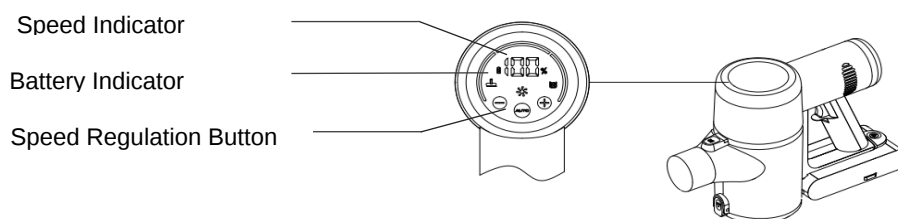

Figure 10
4. Touch the speed button '+' to adjust to high speed, and the speed indicator will display 3 grids, touch the speed button '-' to adjust to low speed, and the speed indicator light will display 1 grid, 'AUTO' key is automatic gear (Figure 10).